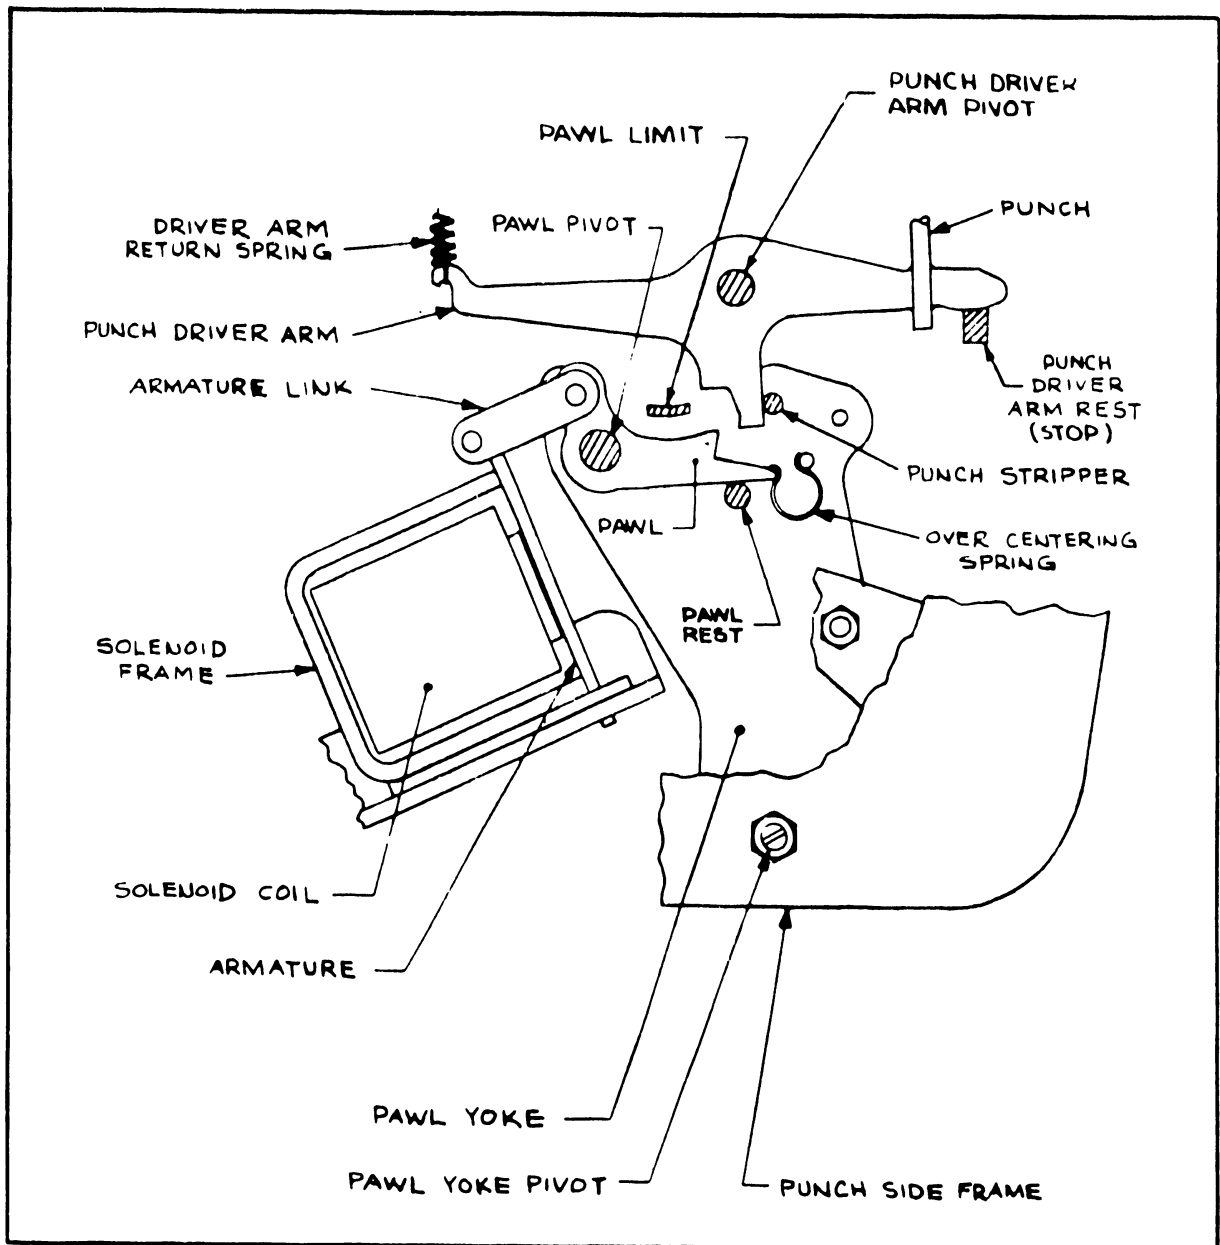
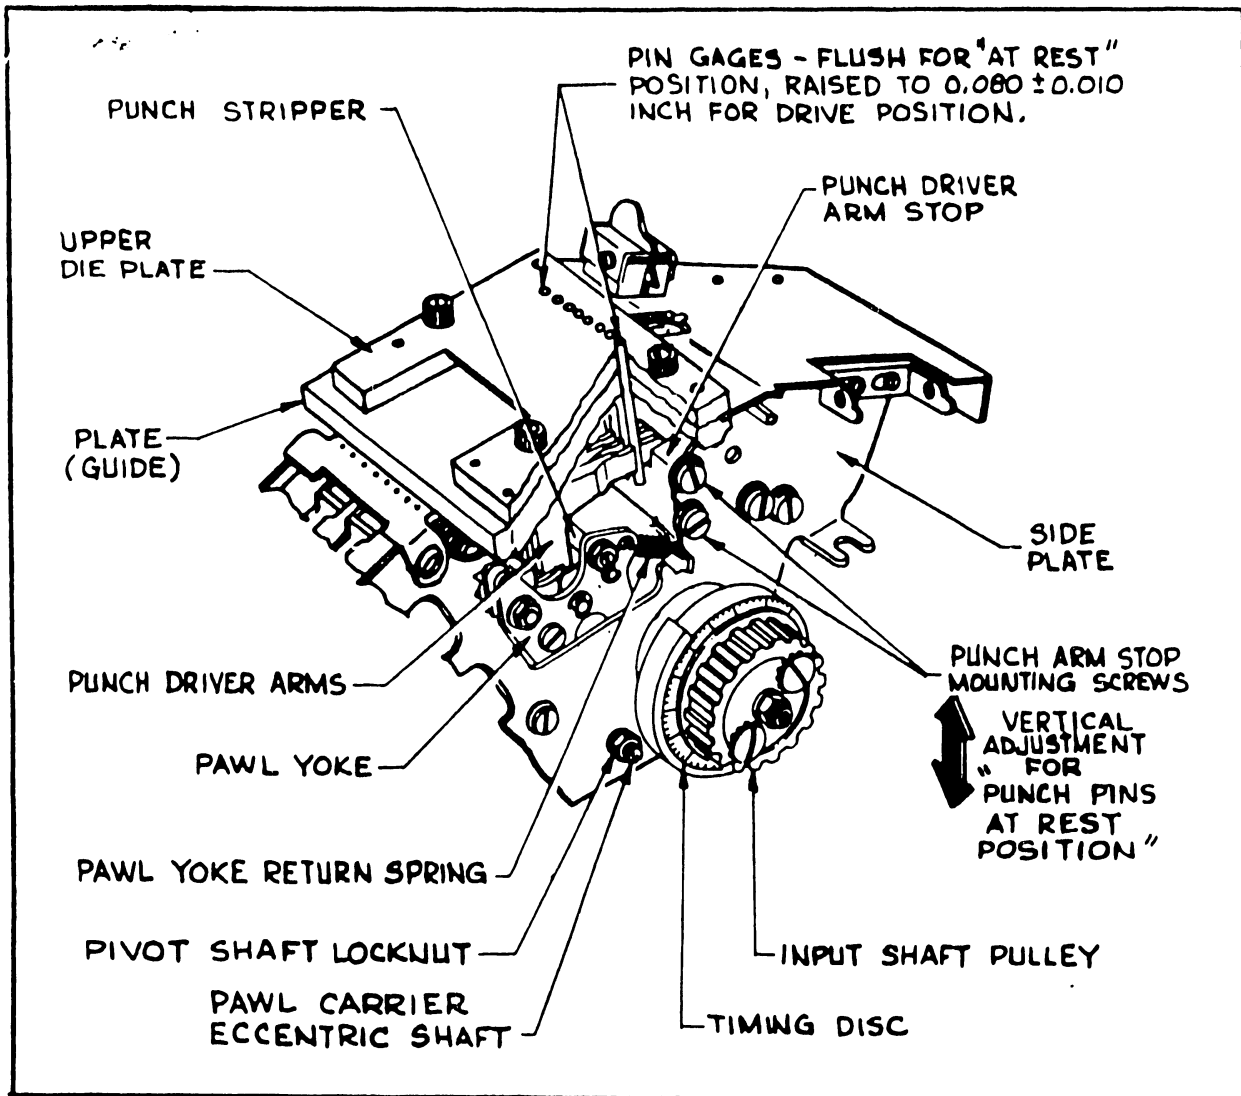

Figure 3.4 Punch Mechanism Schematic
Figure 3.5 Punch Mechanism
Each punch solenoid armature is connected through the armature link with the corresponding punch pawl as shown in Figure 3.4. Pawls swivel about the common pawl pivot, which is fastened to the upper ends of the pawl yoke side plates. The pawl yoke has a reciprocating motion by being driven through the drive link from the eccentric input shaft. Therefore, the yoke moves back and forth, once toward the solenoids and then away from them for each complete cycle of input shaft rotation.
When the yoke is farthest away from the solenoids, the two pawl yoke return springs, shown in Figure 3.5, pull the yoke fully to the end of the stroke. The springs reduce chatter of the yoke at high-speed operation,
5. Raise or lower the punch driver arm stop, see Figure 3.5, until gage pins are flush with the surface of the upper die plate. Then tighten the four mounting screws. Check the punch drive adjustment; see paragraph 3.4.3.
2. Insert punch pin gages in the #1 and #8 punch die holes. If the pawl yoke pivot point is correctly set, both pins must extend above the surface of the upper die plate by 0.080 ± 0.010 inch; see Figure 3.5.
1. Check correct adjustments per paragraphs 3.2, 3.4.1 and 3.4.3. Set the timing dial to 127 degrees. This brings the stripper rod closest to the driver arms; see Figure 3.5. Nominal spacing between rod and driver arms should be 0.005 inch; however, accurate measurement may be difficult because of inaccessibility. Set-up by visual means with back-lighting is recommended. As a check, press the outer punch driver arms down by applying pressure at a point close to the driver arm return spring; see Figure 3.4. The driver arm should just barely move.
3. If the visual check of step 2 shows that the punch pin is not retracted sufficiently, loosen the locknut at each end of the stripper rod; see Figure 3.5. Hold the input shaft at 103 degrees. Slowly turn the rod toward the driver arms, then depress the #1 driver arm and check pin retraction. The punch pin must be below the platen surface.